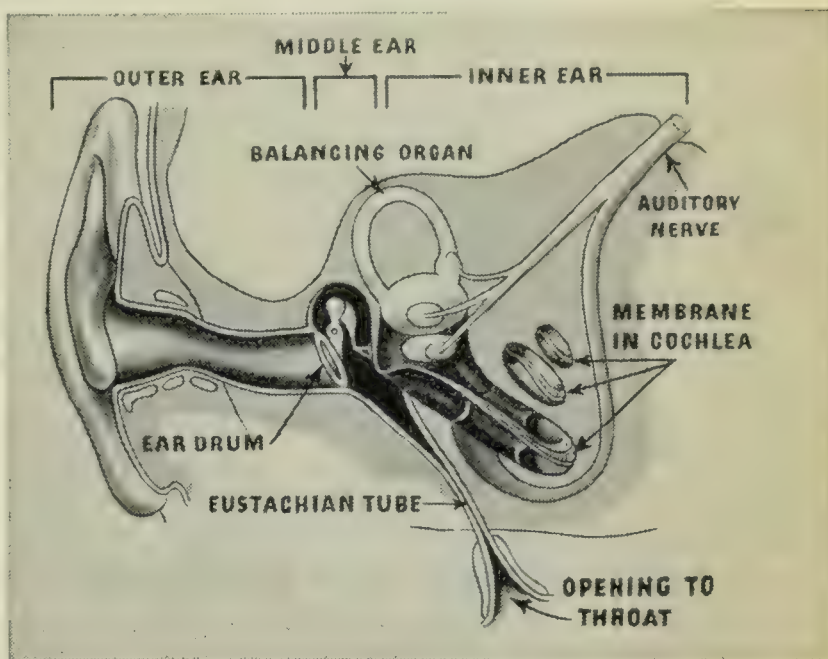

FIG. 435. The parts of the ear
**W**HAT IS THE STRUCTURE OF THE EAR? Three things are necessary for us to hear a sound. First, as you know, vibrations must be produced by some rapidly moving object. Second, some material must carry the sound waves from the vibrating object to us. Third, there must be something to receive these vibrations and interpret them as sounds. Our ears and brains are the parts of our bodies that do this. Figure 435 shows that an ear consists of three parts—the outer ear, the middle ear, and the inner ear. The outer ear is made up of the shell of flexible cartilage and skin that is attached to each side of the head. It includes also the opening, or canal, that leads into the head. A thin membrane, the ear
Figure 435 shows a peculiar part known as the *balancing organ*. This organ does just what its name tells us; it helps us keep our balance. Probably when you ride rapidly on a merry-go-round, you feel dizzy. This is because the liquid in this balancing organ is disturbed.
through your *Eustachian tube* (Figure 435) to let the pressure become the same on the two sides of your ear drums.